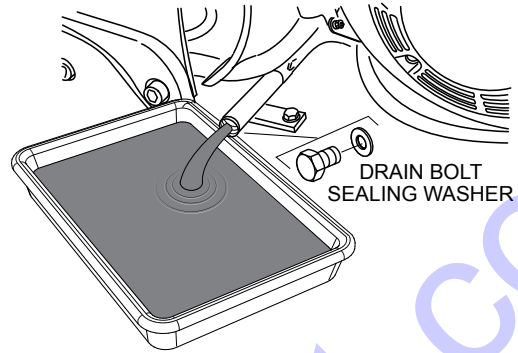

Figure 27. Draining Engine Oil
- Remove the oil drain bolt (Figure 27). and sealing washer and allow the oil to drain into a suitable container.